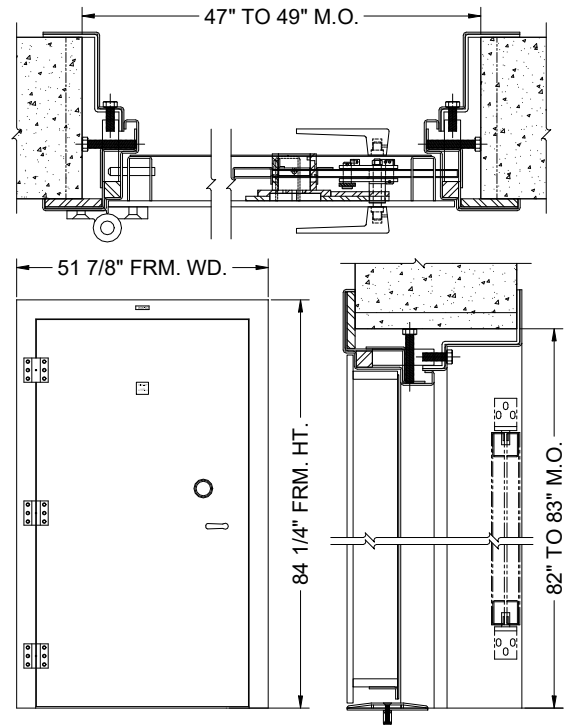

FIGURE 1
**Prior to unpacking the Vault Door, check the masonry opening to verify that it complies with the above dimensions as shown in Figure 1.**